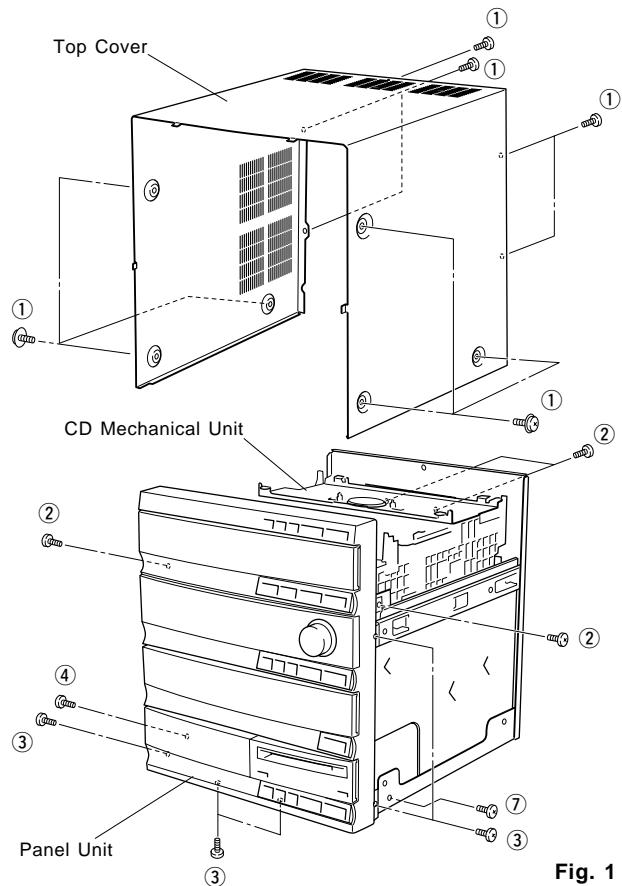
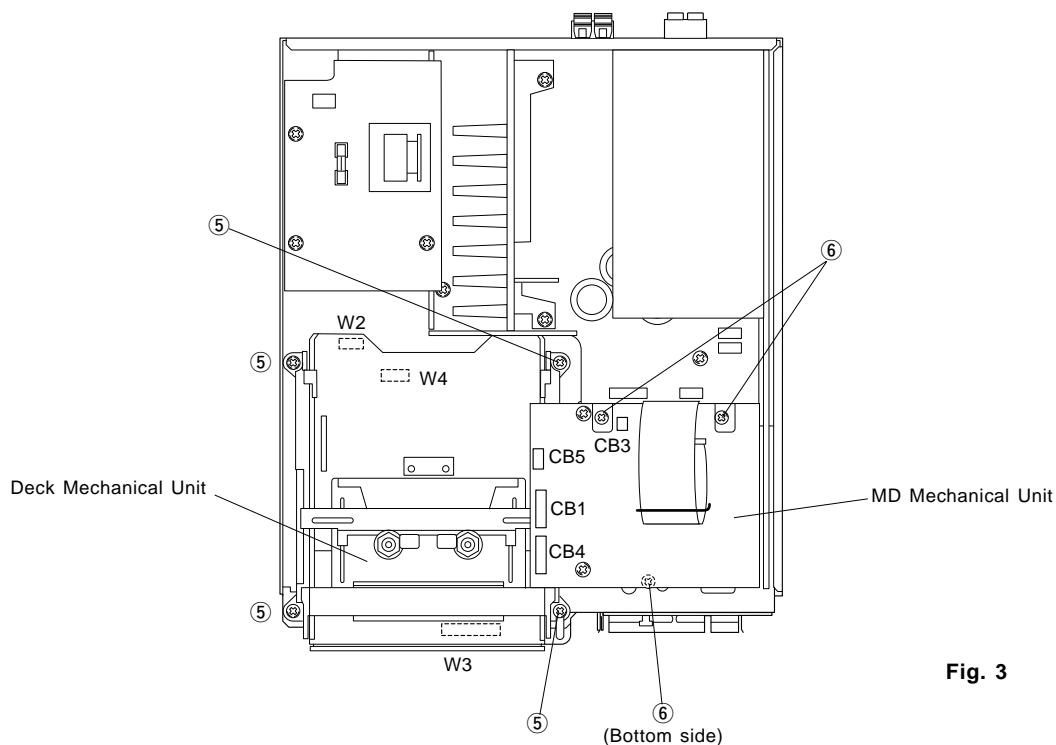

Fig. 1
Fig. 3
Remove 11 screws (①) in Fig. 1.
- Remove 4 screws (②) and then remove the CD Mechanical Unit in Fig. 1.
- Remove 6 screws (③ and ④) and then remove the Panel Unit in Fig. 1.
- Remove 4 screws (⑤) and then remove the Deck Mechanical Unit in Fig. 3.
- Remove 3 connectors (W2, W3 and W4) in Fig. 3.
- Remove 3 screws (⑥) in Fig. 3 and 1 screw (⑦) in Fig. 1.
- Remove 4 connectors (CB1, CB3, CB4 and CB5) in Fig. 3.